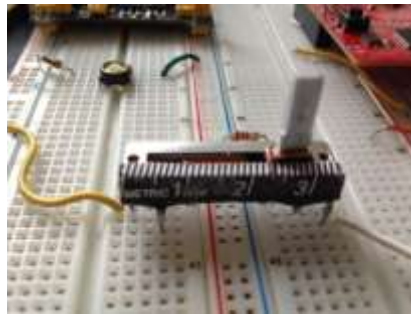

Figure 1
2. Wrap a wire around the slider (armature) to be used as pointer, as shown in figure 1. The full scale range may be anything from 1.0-2.5 cm.